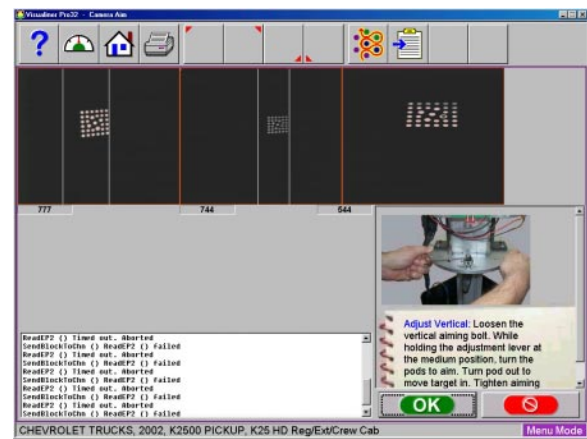

Figure 5-15
10. Move the RCP fixture back 7 feet, the fixture should be located in front of the rear slip plates. If the targets are not aligned within the vertical lines loosen the vertical aiming bolt, while holding the adjustment lever at the medium position, turn the pods to aim (Figure 5-15). Tighten the bolt and press “Ok” to continue. If the camera aiming procedure was done correctly a message should indicate a successful camera aim and to run the pod rotation position routine.